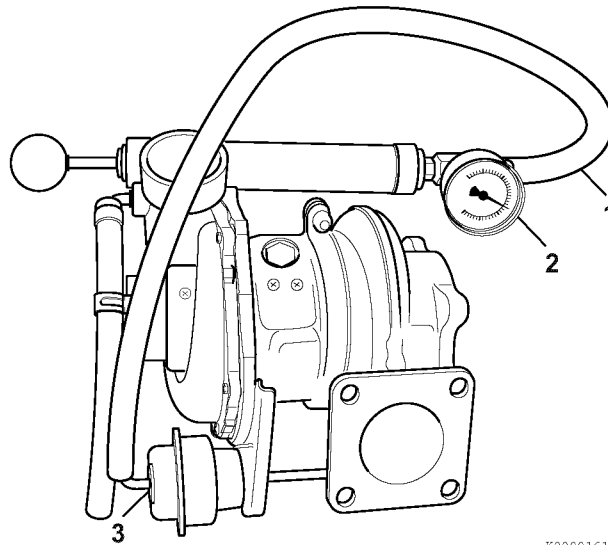

Fig.24-17
- 1 - Connect a hand-operated air pump to the waste gate actuator pipe (1, Fig.24-17). The pump should be equipped with a 30 psi (0.21 MPa; 2.21 kgf/cm²) pressure gauge (2, Fig.24-17) and a pressure relief valve to release any pressure pumped into the system.
- 2 - Apply 17 psi (0.12 MPa; 1.2 kgf/cm²) to the waste gate actuator (3, Fig.24-17) circuit. Observe if the waste gate valve fully opens. If the waste gate valve does not fully open, replace the turbocharger or have it repaired by a qualified repair facility.